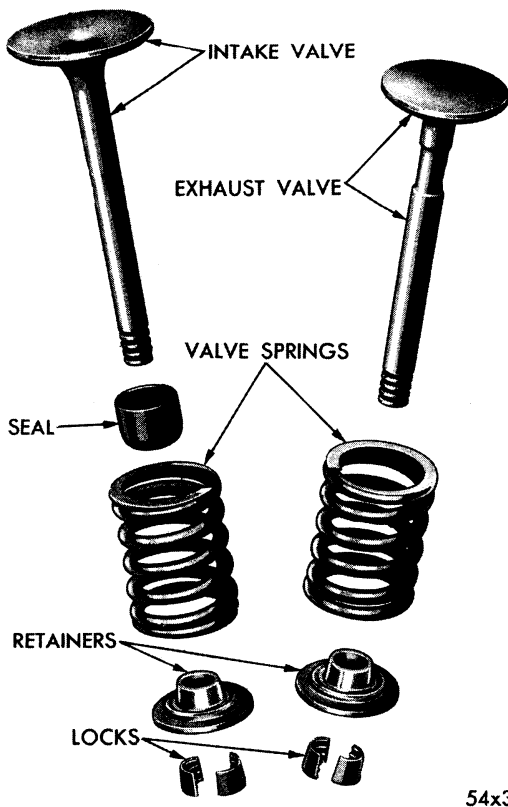

Fig. 71—Valves, Springs, Seal and Retainer (Disassembled View)
- (3) Coat the intake stems with clean engine oil and slide into position in the head. Now, slide the valve stem seal over stem and down against valve guide. (The seals will automatically seat themselves in correct position when the engine is first run.) (See Fig. 71.)